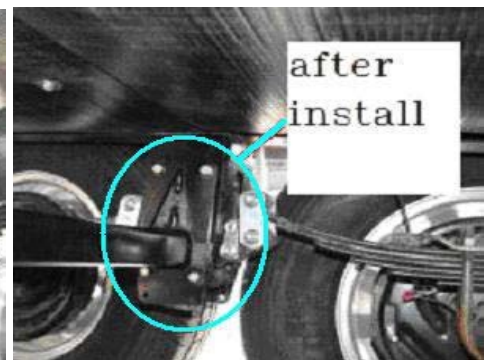

Fig. 3
Step 3 After removing fourth bolt from both sides, pivot the bar until it lines up with the remaining holes and install the rest of the hardware. It may be necessary to use a screwdriver or drift pin through the holes. See figure 3. **Torque all hardware to 40 ft-lbs.**